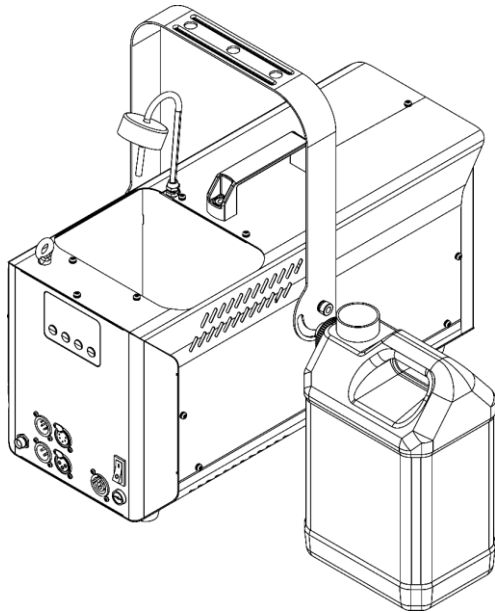

Fig. 10
- 04) Place the fluid tank on a flat surface near the device, as shown in Fig. 10.